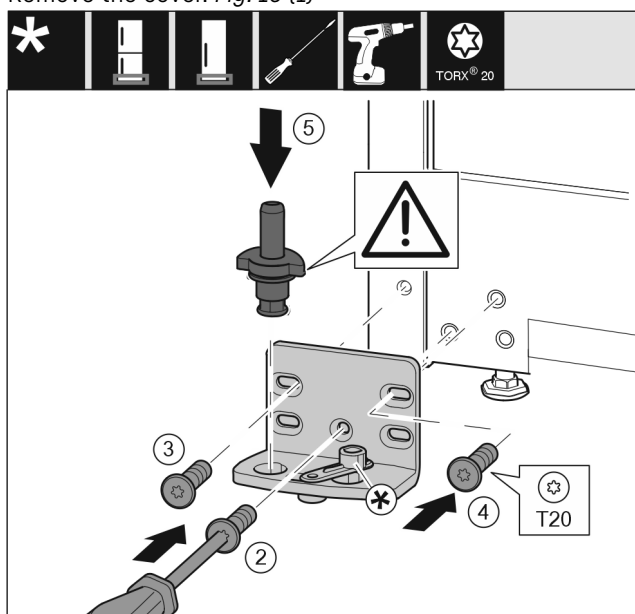

Fig. 11
- Place the bearing bracket on the other side and screw it on with a T20 screwdriver. Start with screw 2 at the bottom in the middle. Fig. 11 (2)
- Screw in screws 3 and 4 tightly. Fig. 11 (3,4)
- Insert the bearing pin completely. Make sure that the latching lug is pointing to the rear. Fig. 11 (5)